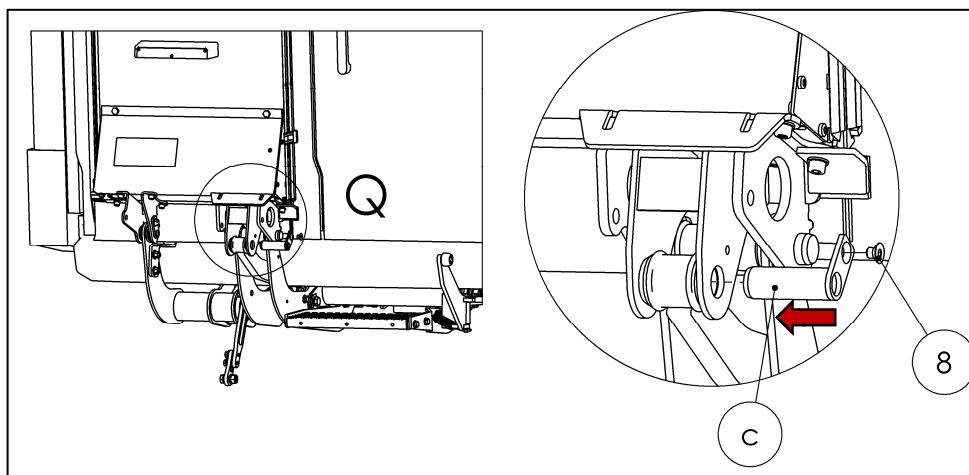

Fig. 55
- Mount the screw (8) from the accessories kit to secure the pin (Fig. 55).